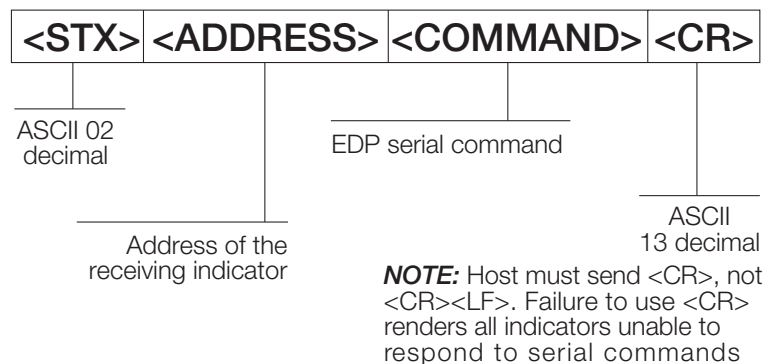

Figure 12-2. RS-485 Send Data Format
All remote commands are initiated using the data format (Figure 12-2).
*Example: To send the KPRINT command from an ASCII terminal to an indicator at address 65 (decimal) on the RS-485 network (Figure 12-2 on page 119).*
- The indicator address (65) is represented by an upper case "A"
- The carriage return (CR) character is generated by pressing the **Enter** key